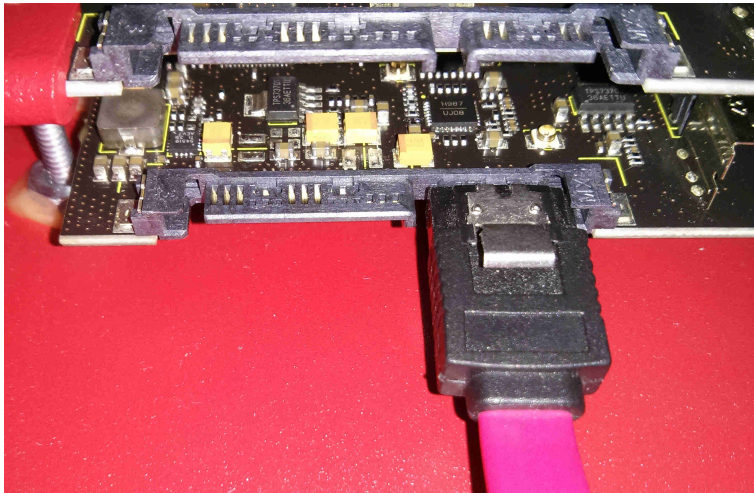

Figure 9: The MCU programming header location on the Receive (Rx) board.
2. Locate the relevant board firmware header (see Figures 9 on the next page and 12 on page 51).